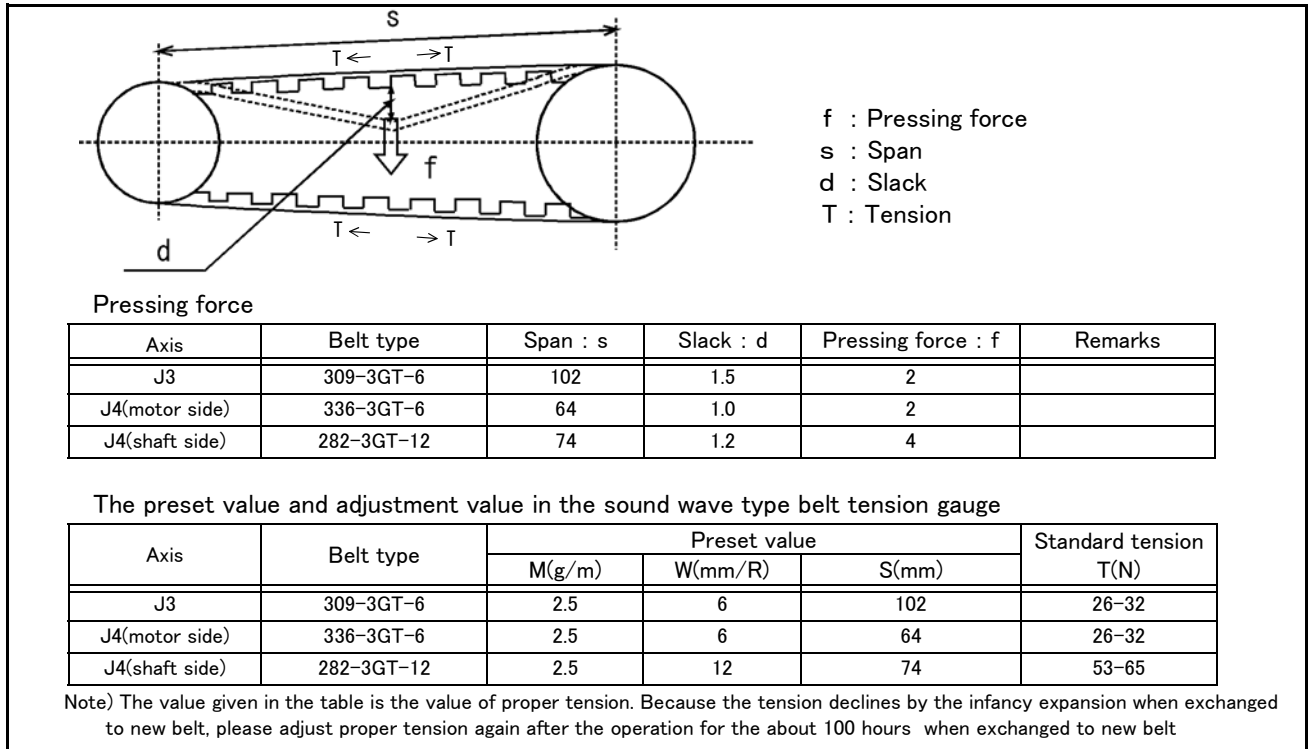

Fig.5-12 : Belt tension
- 4) Lightly press the center of the belt, and confirm that the value of belt slack is in Page 81 "Fig. 5-12: Belt tension". Or measure the tension of the belt with tension meters, and confirm that the value is in the range of standard tension shown in Page 81 "Fig. 5-12: Belt tension".
- 4) Lightly press the center of the belt, and confirm that the value of belt slack is in Page 81 "Fig. 5-12: Belt tension".
Or measure the tension of the belt with tension meters, and confirm that the value is in standard tension shown in Page 81 "Fig. 5-12: Belt tension".
The timing belt can satisfactorily convey the drive and keep a durable force only when it has an adequate tension. The belt tension should not be too tight or too loose. Instead, it should be adjusted to a degree that elasticity is felt when the belt is pressed with the thumb. If the belt tension is too weak, the belt loosening side will vibrate. On the other hand, if the belt tension is too strong, a sharp sound will be heard and the belt tension side will vibrate. The detailed adjustment (tension) is shown in Fig. 5-12.